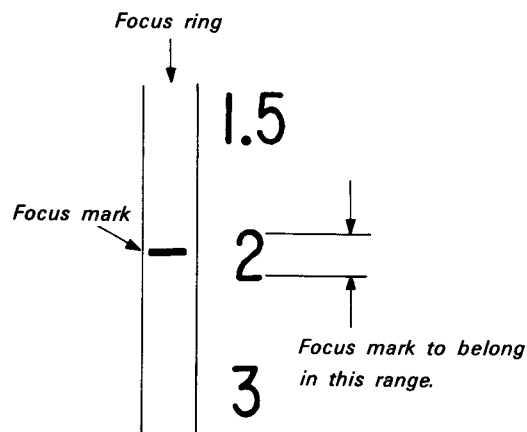

Fig. 7-8.
- 12) By turning focusing ring, check to assure the position that provides the highest definition view of the wedge to be within the Fig. 7-8 range.